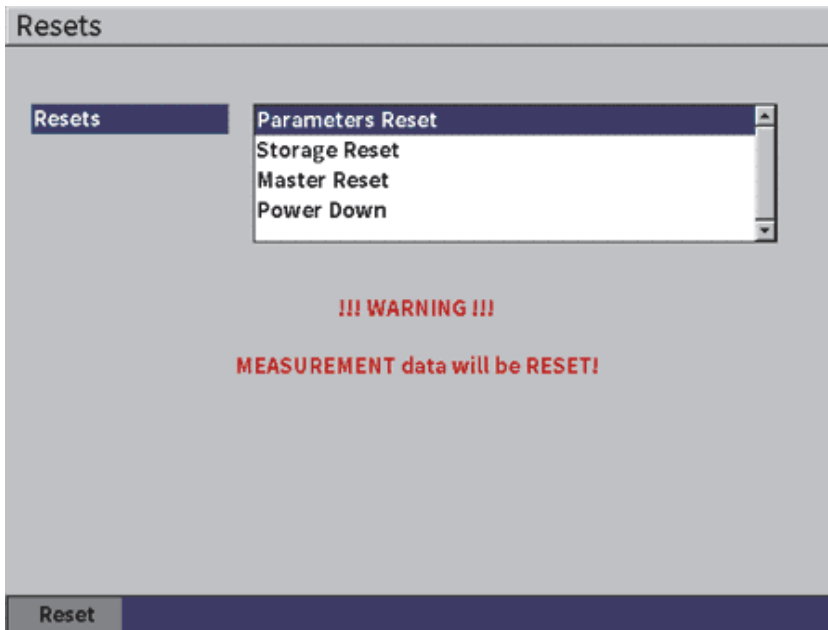

Figure 5-13 Resets setup page
This page is used to reset certain system parameters to the factory default condition (see Figure 5-13 on page 54). A warning is displayed to notify you that the data associated with the selection will be reset (erased).
- ◆ Select the **Reset** icon () to open the **Resets** setup page (see Figure 5-13 on page 54).